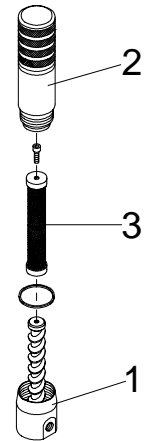

Fig. 7
The filter allows for the elimination of any impurities to be found in the product delivered before reaching the spray gun. Made from aluminum it is composed of two units, one fixed (lower filter casing ❶, Fig.7) and one mobile (upper filter casing, ❷). The filter element ❸ is fixed to the lower casing.